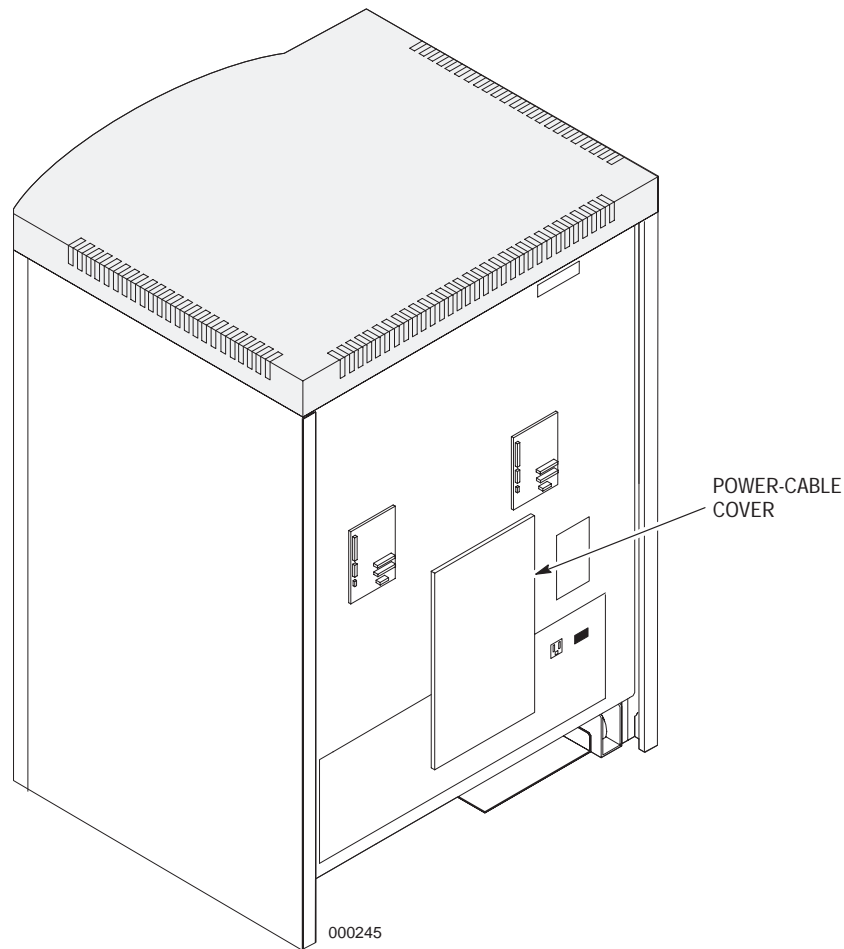

Figure 11-8. Power-Cable Cover on the Rear of the Server.
5. When the **ENTER BOOT COMMAND:** prompt appears, turn off the power to the server by switching the main power circuit breaker to the OFF position (0).
7. Use a #2 Phillips screwdriver to remove the 12 screws that secure the power-cable cover to the server frame at the rear of the server. Save the screws. Remove the power-cable cover; its location is shown in Figure 11-8.